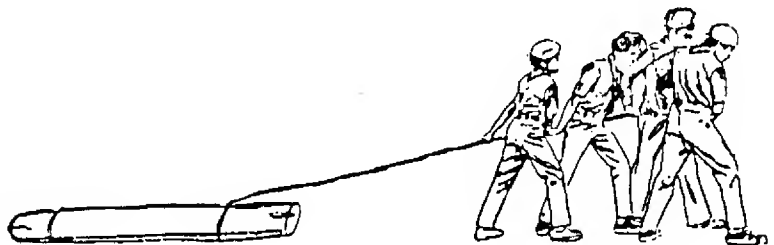

Figure 396 Log Twitching (Log Pulling)
11. Log Twitching Contest: This is an exercise in which a large log is pulled on the ground by a group with a rope. The rope is attached to the log with a timber hitch and a simple hitch if needed. See Figure 396.